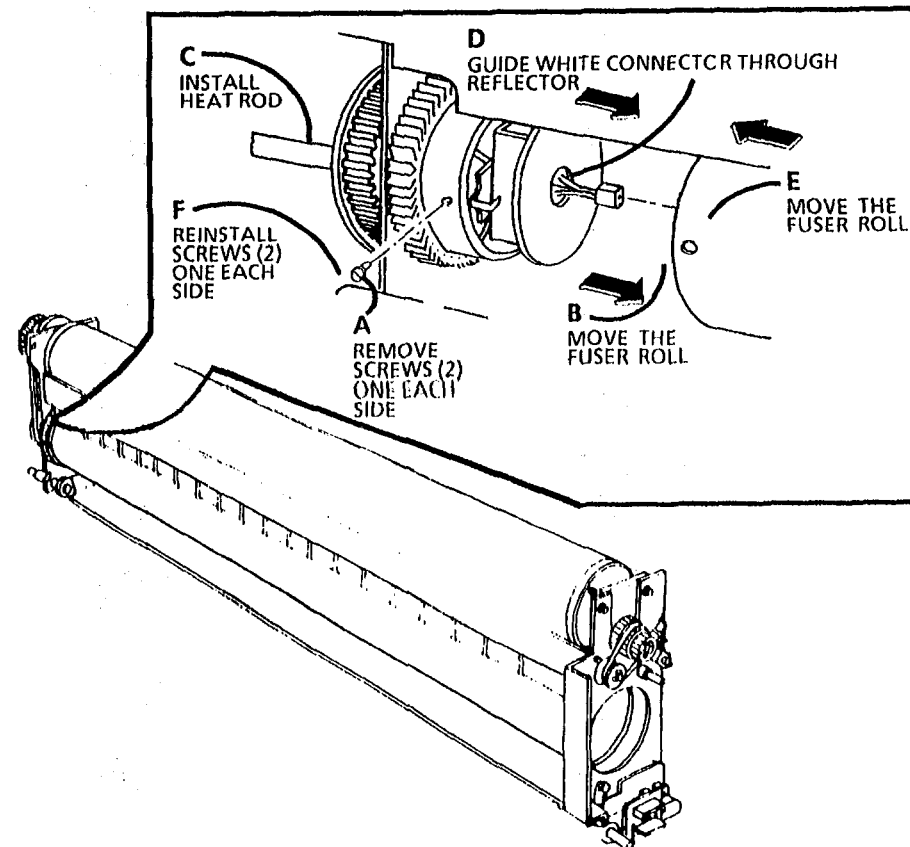

Figure 2. Install the Heat Rod
2. (Figure 2): Install the heat rod.